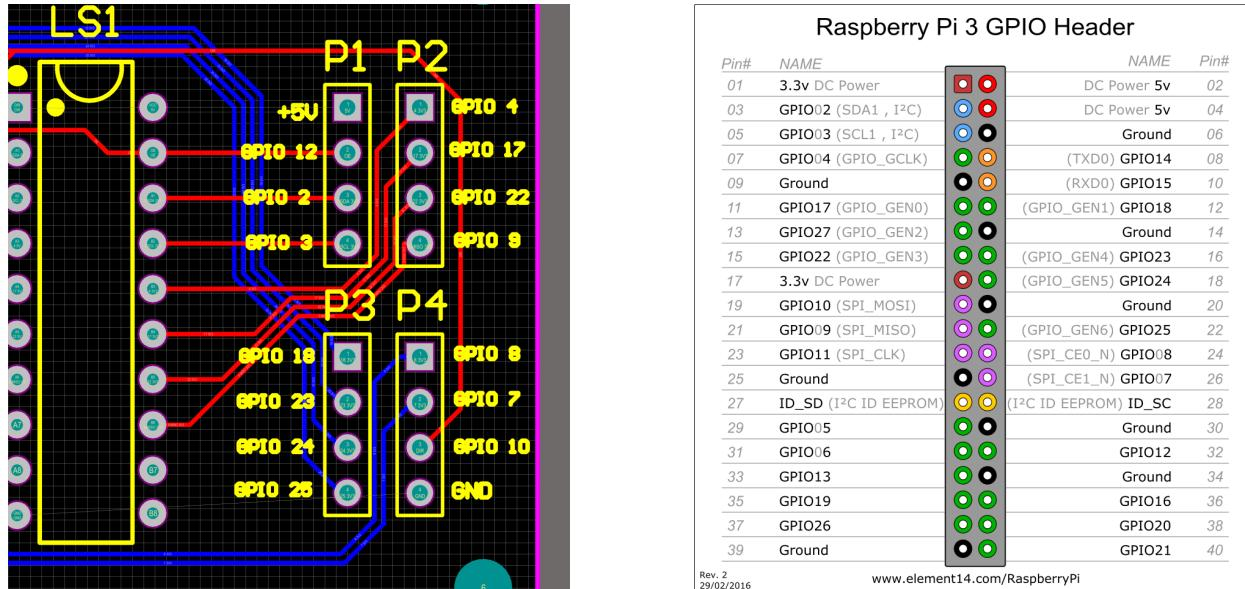

Figure 32: Raspberry pi to Logic Shifter board
The Logic Shifter PCB is not included in the Adafruit project. The following steps describe how to include the Logic Shifter PCB in the wiring and routing. Figure 32 shows the pin connections on the logic shifter, labeled with which pin they connect to on the Raspberry
**\*\*Note\*\*** In Figure 32, the pin labels on the board (left) correspond to the pin NAME and not the physical pin number. For example, GPIO 12 is GPIO 12 and **NOT** physical pin #12.